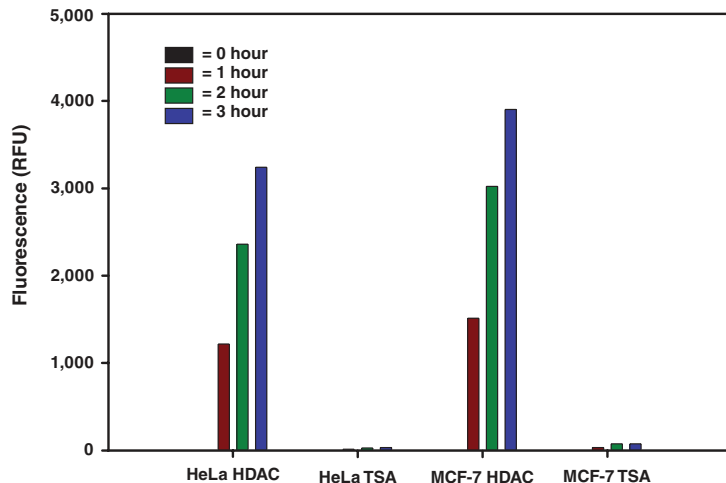

**Figure 1. Deacetylated substrate standard curve**
2. Plot the corrected fluorescence values (from step 1 above) of each standard as a function of the final concentration of Deacetylated Standards. See Figure 1, on page 12, for a typical standard curve.